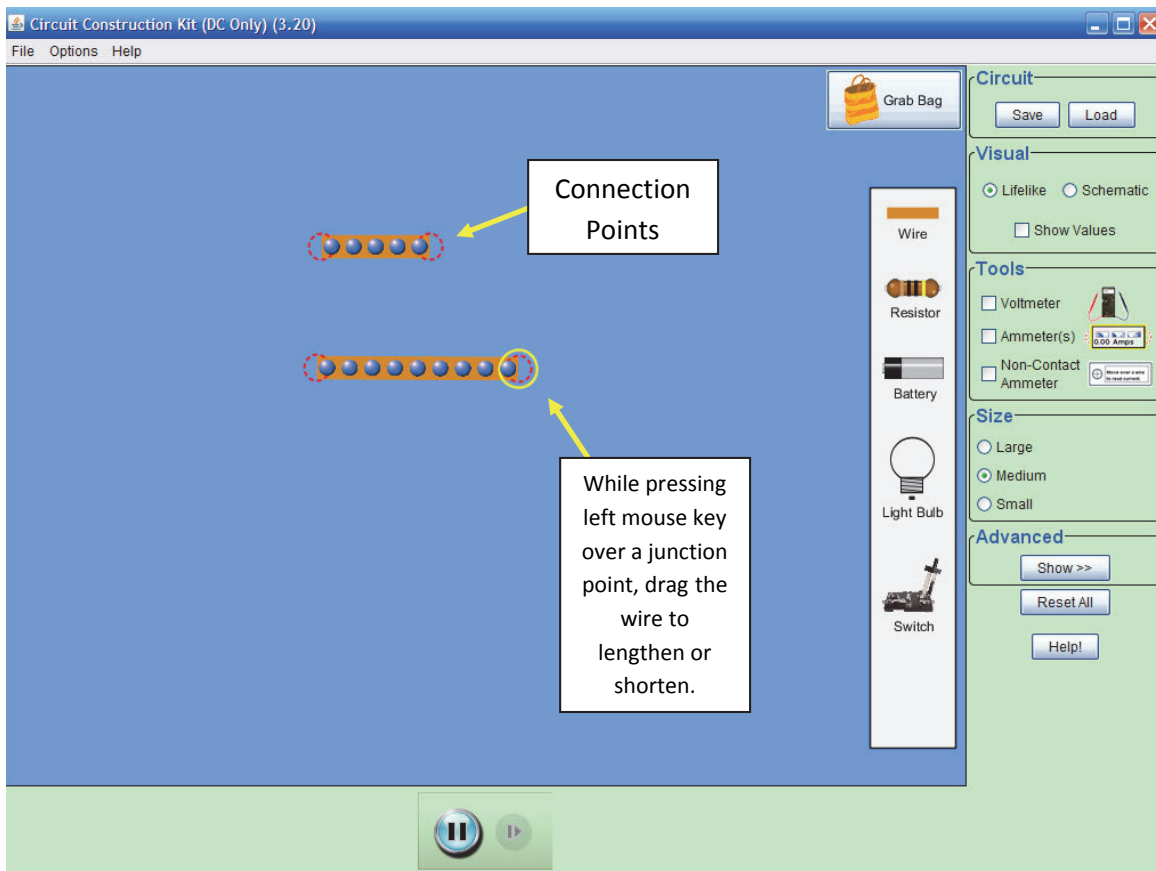

Figure 1-2
3. We'll now take a look at the wire or conductor as it may be termed. In figure 1-2, the red dashed circles are the connection junctions. By clicking on and holding down the left mouse key on a connection junction the length of the wire can be increased or decreased simply by dragging the mouse.